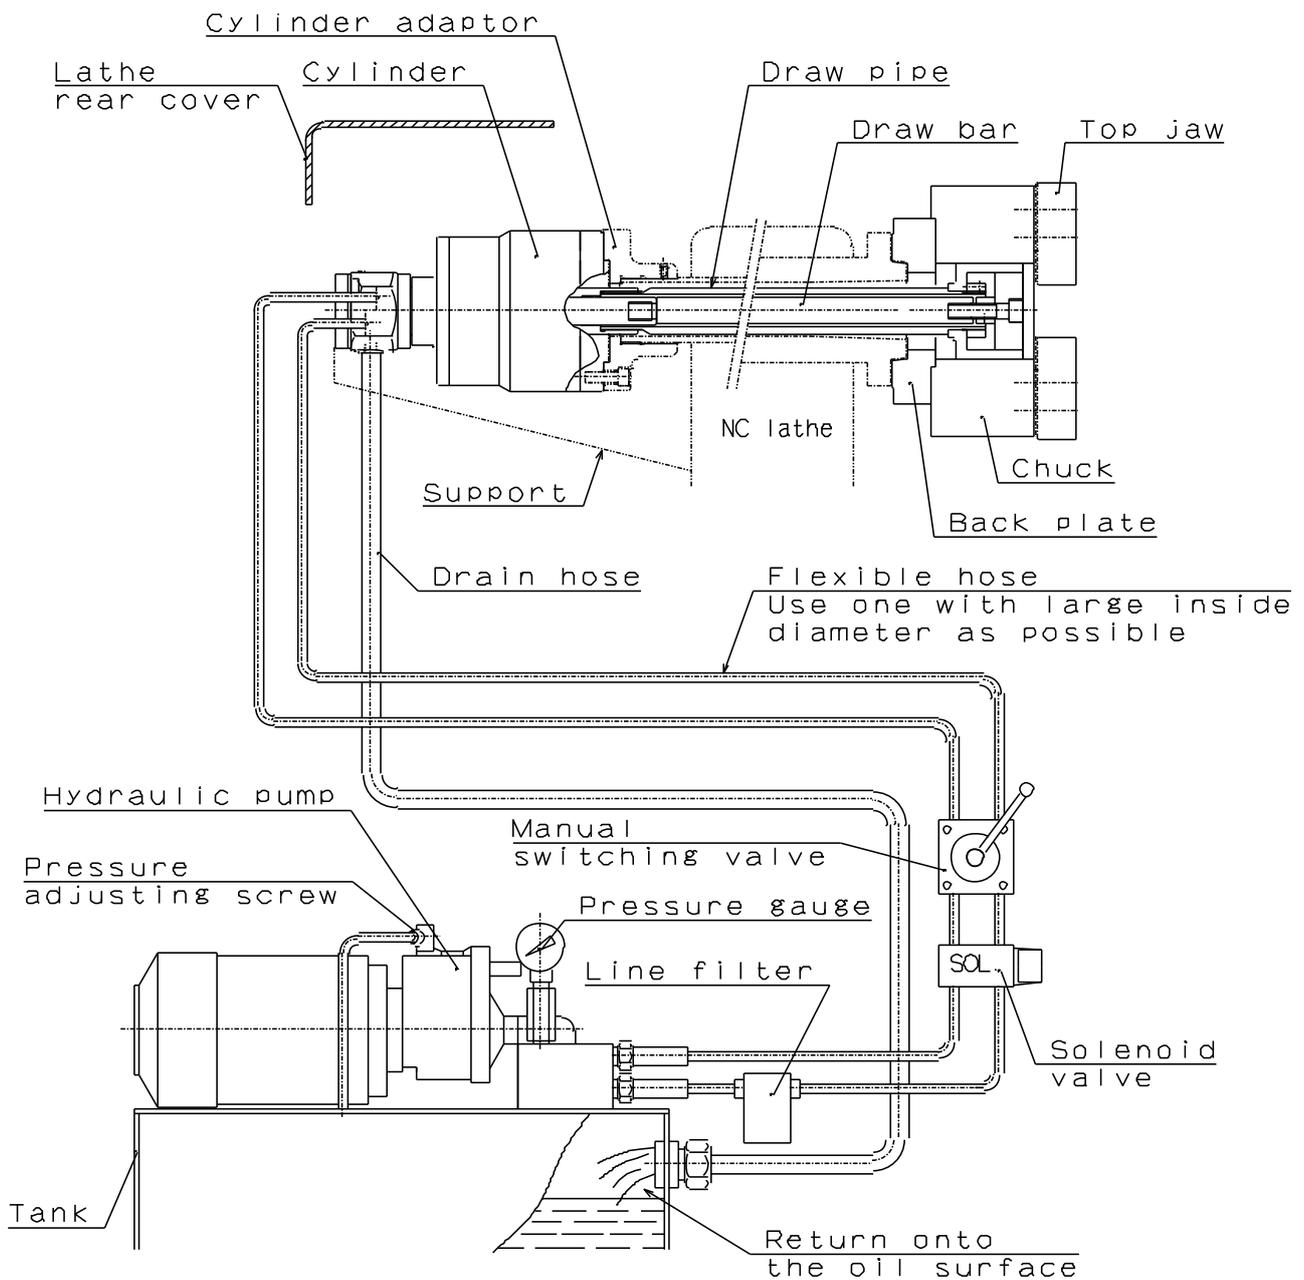

Fig.15
- **The end of the hose is physically above the oil level. (Refer to Fig.15)**